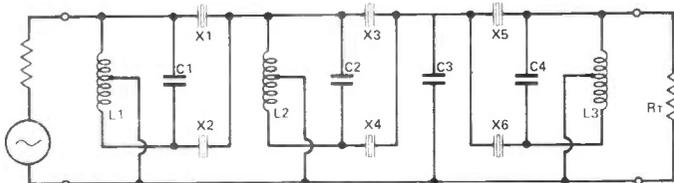

Figure 6:  $n = 6$  crystal filter.
14. The transformations are now complete and the final circuit is shown in **Fig. 6**.
where  $R_s$  and  $C_s$  are the required terminating impedance,  $R_T$  the filter design impedance and  $C_T$  the extra capacitance needed in the transformation which appears across  $R_T$ . In the circuit shown in **Fig. 6**, the values of  $C_1$  and  $C_4$  would have to be reduced by  $C_T/4$  to obtain a correctly matched termination using a series capacitance.